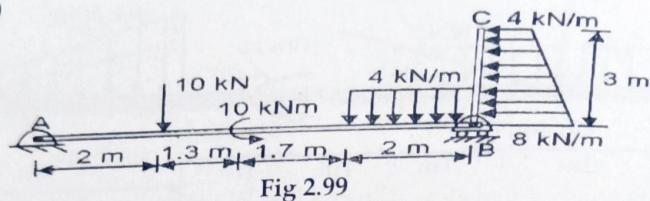

Fig 2.99
- 2) Find the reactions for the beam loaded and supported as shown in fig 2.99 (Ans: 18kN, 13.15kN, 4.85kN)